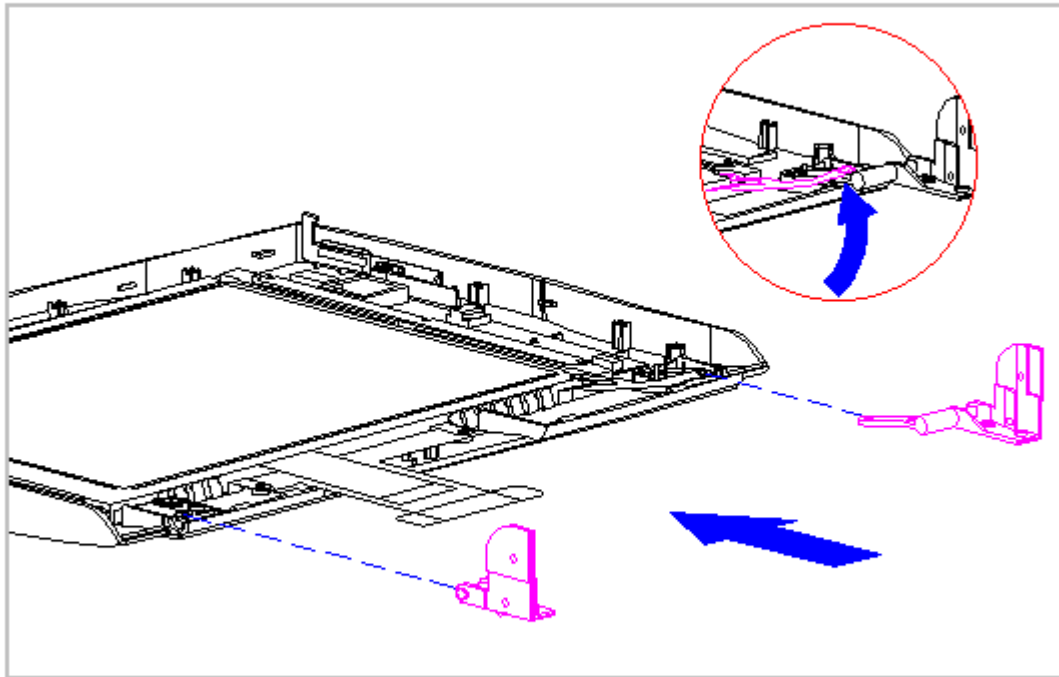

Figure 3-191. Replacing the Display Clutches (All Models)
**IMPORTANT:** When replacing the display clutch screws, ensure proper alignment of the display clutches on either side of the display enclosure with the shield (Figure 3-191).